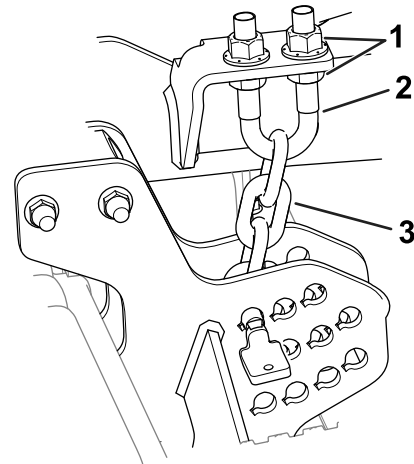

Figure 10
- Loosen the jam nuts at the top or bottom of the height-of-cut chain U-bolt (Figure 10).